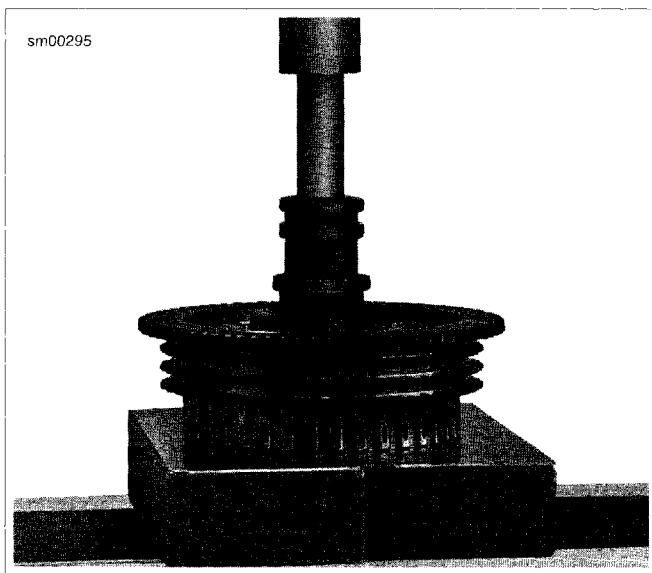

Figure 5-32. Removing Clutch Shell Needle Bearing
1. See Figure 5-32. Place clutch shell on support blocks with sprocket side facing up.
2. See Figure 5-32. Insert removal end of tool into bearing assembly and remove bearing from clutch shell.